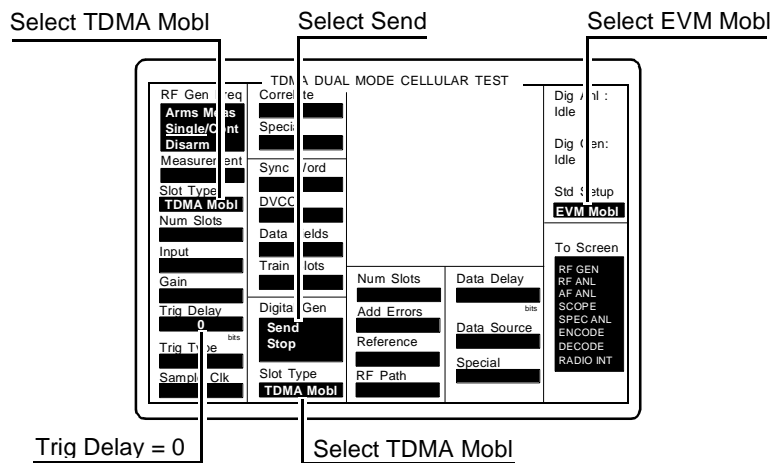

Figure 63
Step 3. Setup the TDMA screen (see figure 63).